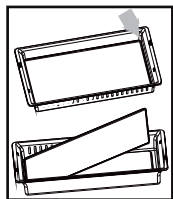

Figure 7
2. Place a hand along the warped gap (wearing work gloves is recommended) and gently remove the plate. See Figure 7.